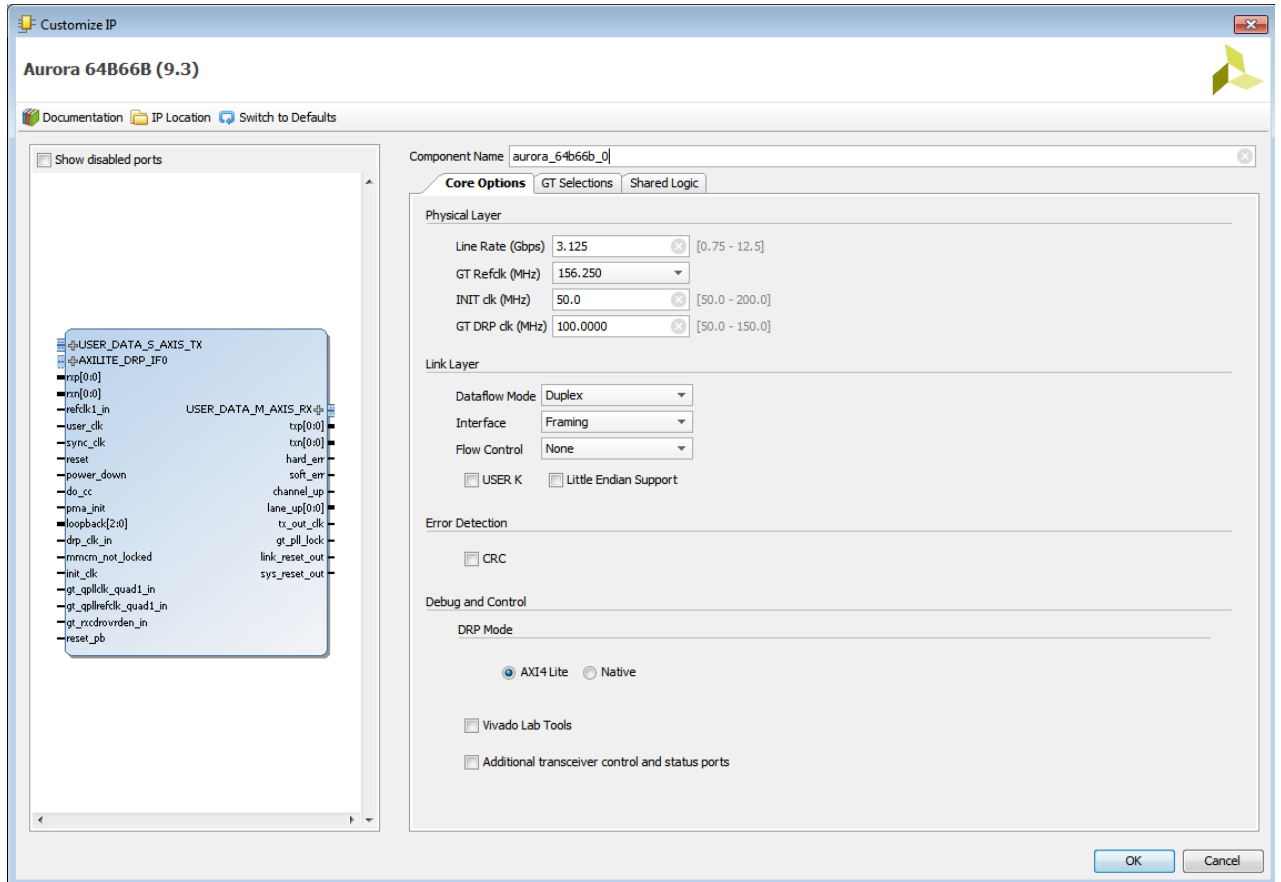

Figure 7: Core Options Tab
- Double-click **Aurora 64b66b** or alternatively right-click and select the Customize IP. See Figure 7.